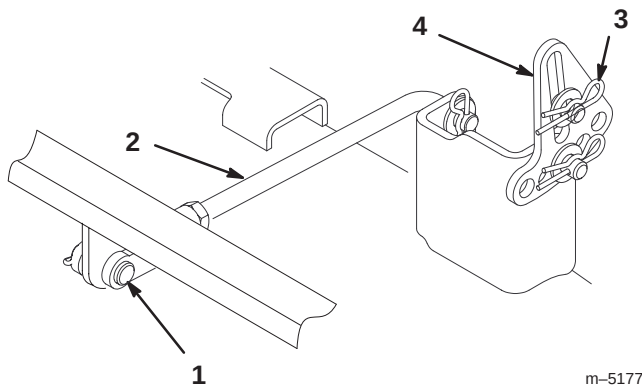

Figure 45
4. Remove the hairpin cotter and clevis pin from the rear trunnion rod (Fig. 45) on each side of the mower.
- Remove the hairpin cotter and washer at the mower leveling brackets (Fig. 45) on each side of the mower. Note which hole the leveling bracket is mounted in for future installation. Slide the brackets off of the mounting pin.
- Attach the rear trunnion rod to the tractor with the clevis pin and hairpin cotter (Fig. 45) on each side of the mower.
- Slide the leveling brackets onto the mounting pins and secure them with the washers and hairpin cottes (Fig. 45).